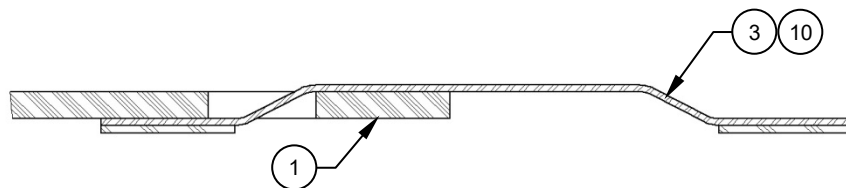

Figure 4
6. Install the provided fasteners (Item 12) as shown. Reference Figures 4 & 5